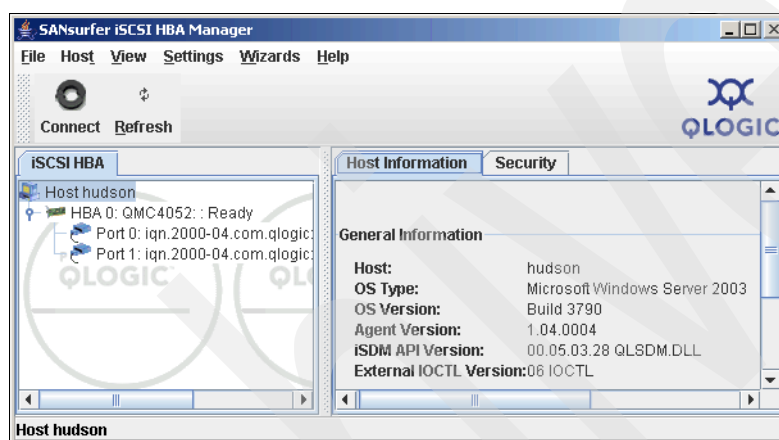

Figure 21-22 SANsurfer - General information
4. After successful login, some general information is shown about the host and a list of the HBAs and ports with their iSCSI Qualified Names (IQNs) (see 1.3.1, "iSCSI initiators and targets" on page 9). See Figure 21-22.